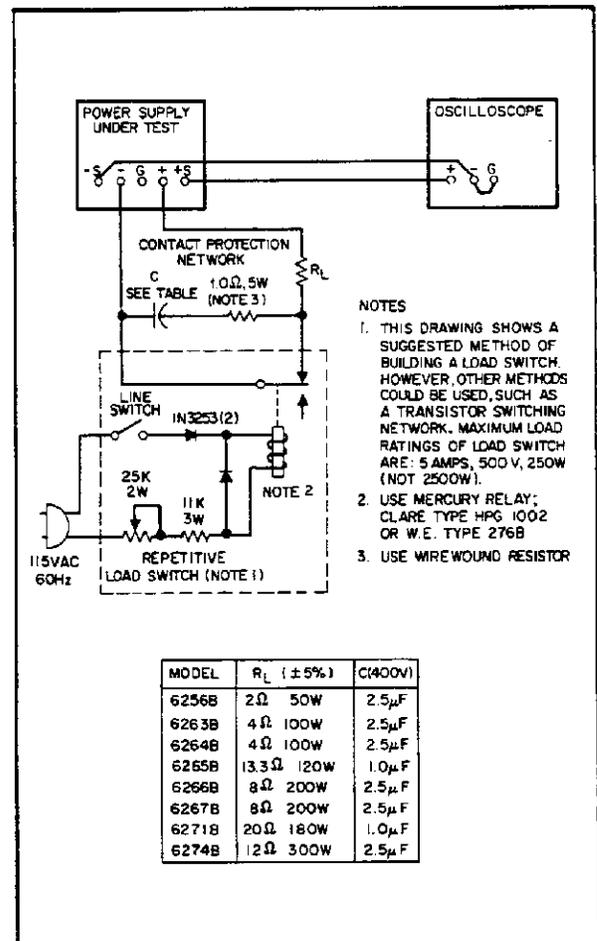

Figure 5-4. Load Transient Recovery Time Test Setup
5-29 We suggest that a mercury-wetted relay connected in the load switching circuit shown in Figure 5-4 be used for loading and unloading the supply. When this load switch is connected to a 60Hz ac input, the mercury-wetted relay opens and closes 60 times per second. The 25k control adjusts the duty cycle of the load current switching to reduce jitter in the oscilloscope display. This relay may also be used with a 50Hz ac input. The load resistance shown in Figure 5-4 is the minimum resistance that can be used without damaging the mercury-wetted relay contacts.
- a. Connect test setup shown in Figure 5-4.